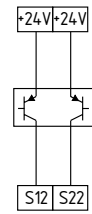

Fig. 11
**Dual-channel control of a safety-related (microprocessor-based) safety guards with p-type transistor outputs (e.g. electronic safety sensors or AOPD's) to IEC 61496-1 (Fig. 11)**